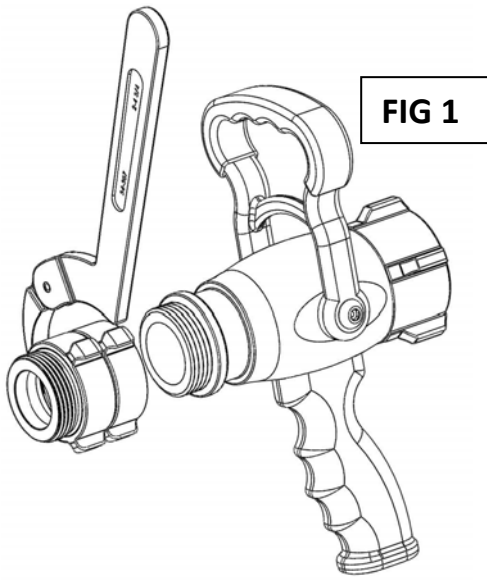

FIG 1
A) INSTALL THE ADJUSTING COUPLER TO YOUR NOZZLE HANDLE. TIGHTEN IT WITH A SPANNER WRENCH USING STANDARD FORCE (FIG 1).